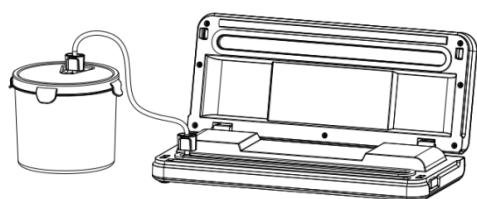

Figure 8
3. Insert one end of the hose into the air intake and another end of the hose into the center hole of the container lid. The container needs to have a tight seal (as shown in Figure 8);